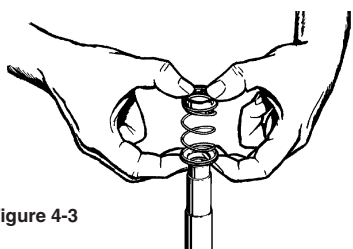

Figure 4-3
8. Remove the Seal Rotating Element (#12) from the sleeve. Refer to Figure 4-3. The element normally adheres tightly to the sleeve and some force may be necessary to remove it. This is common and if care is taken, the element can be reassembled and reused. **It is recommended that a new rotating element be used for reassembly.** DO NOT